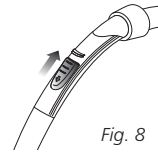

Fig. 8
- d Keep the manual suction control closed for maximum suction. (Fig. 8)